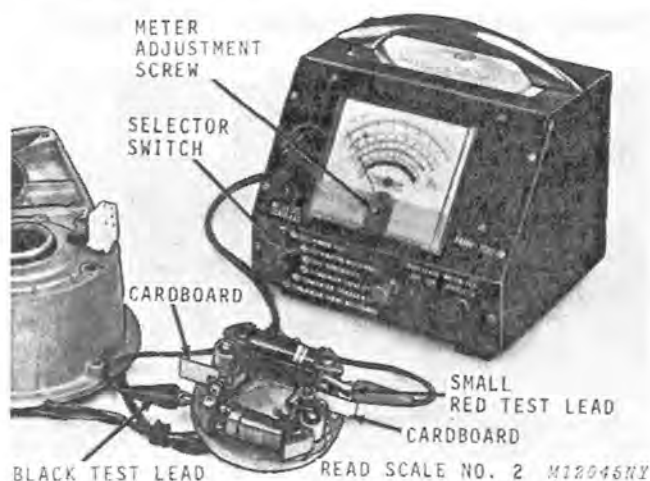

Fig. 27-Testing Ignition Generating Coil Continuity
3. Insulate breaker points by placing a small piece of cardboard between points, Fig. 27.